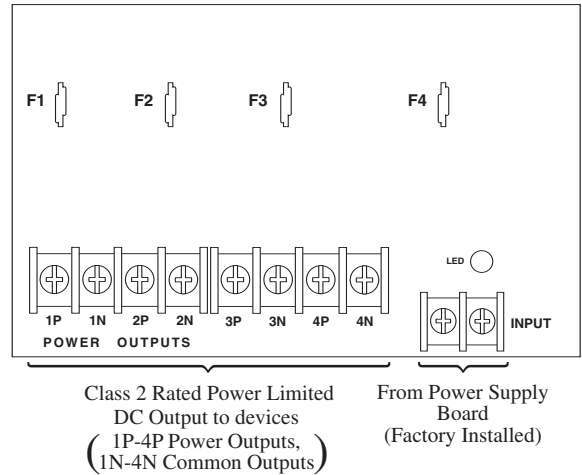

Fig. 3A
- b. For other Power Distribution Models connect devices to be powered to terminal pairs 1 to 4 marked [1P & 1N thru 4P & 4N] (*Fig. 2A & 2B, pg. 5*) or 1 to 8 marked [1P & 1N thru 8P & 8N] (*Fig. 3A & 3B, pg. 5*) carefully observing correct polarity.